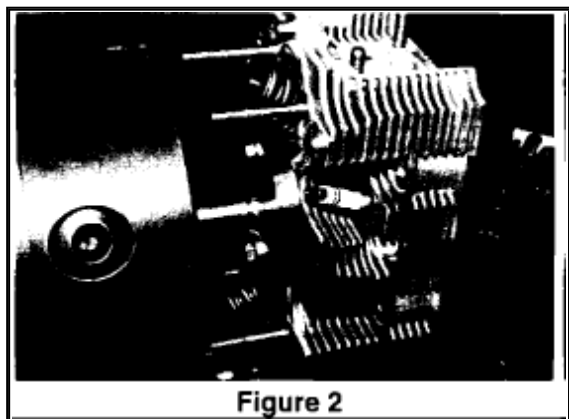

Figure 2
2. Install special tool 9526 on the short 8 mm cylinder head studs. Tool cut-out faces intake valve (Figure 2).